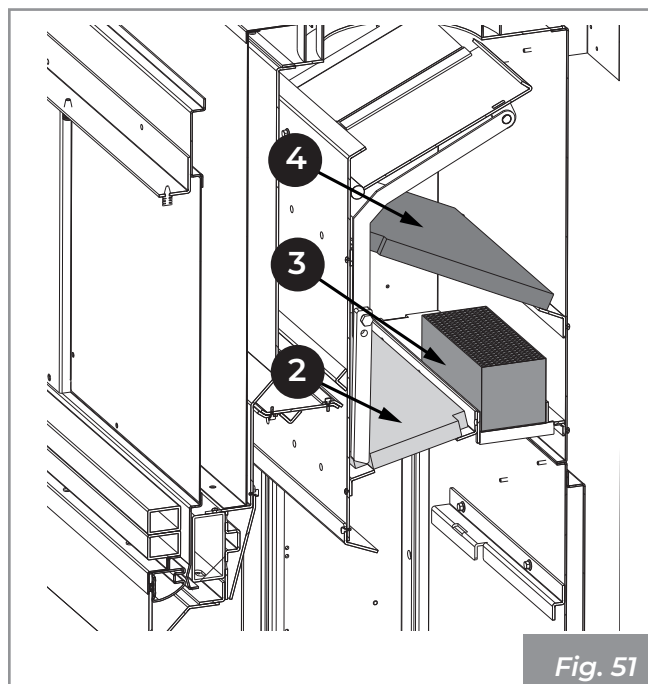

Fig. 51
- 7) Slide out and extract first the panels (2), then the two O2RINGS (3) and finally the panels (4) (Fig. 51).